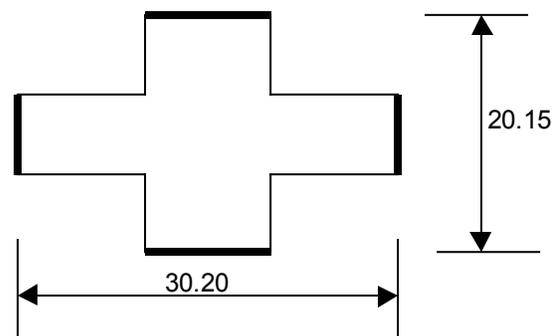

Figure 4
21. It is required to check a rectangular slot of specified length 30 ± 0.20 , width 20 ± 0.15 and depth 10mm. A gauge designer has designed and fabricated a NO GO gauge of length 5mm and cross section as shown in Figure 4 above right, so that both length and width could be checked simultaneously. Comment on the suitability of this gauge to ensure conformity to specification.